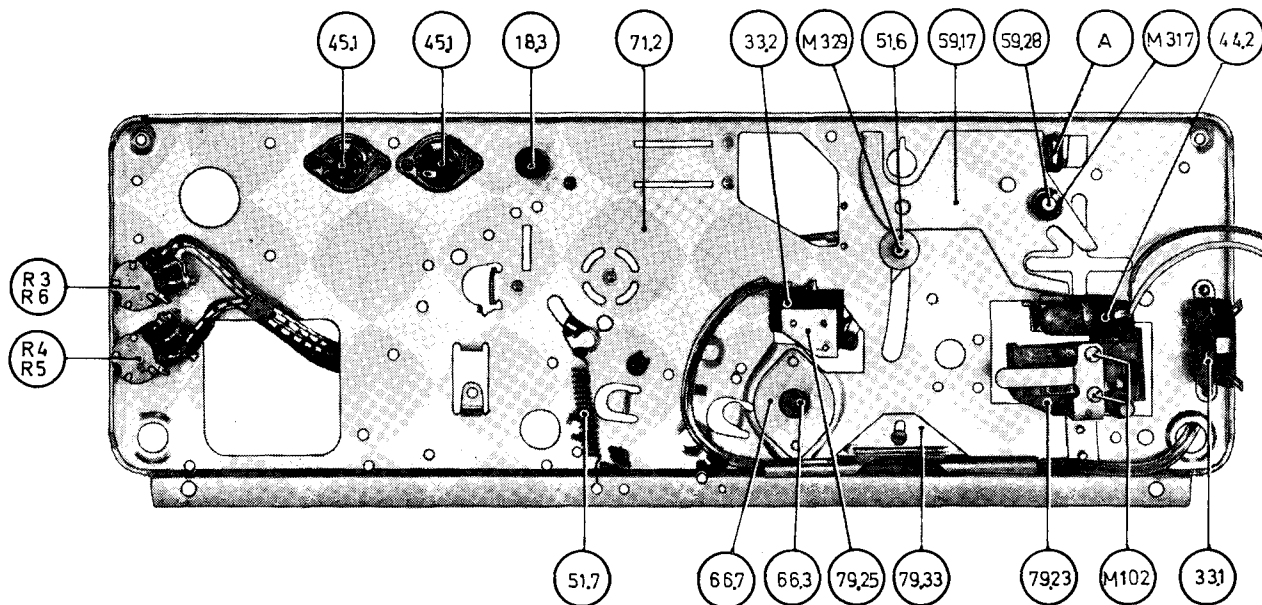

Fig. 9. The upper mounting plate, bottom view.
The eccentric segment (59.17) is located underneath the upper mounting plate (71.2), and is connected to the operating lever (54.1). Ref. fig. 9 and 10.
Adjust the return motion of the pressure wheel assembly (51.3) by bending the lug (A) ref. fig. 9 to